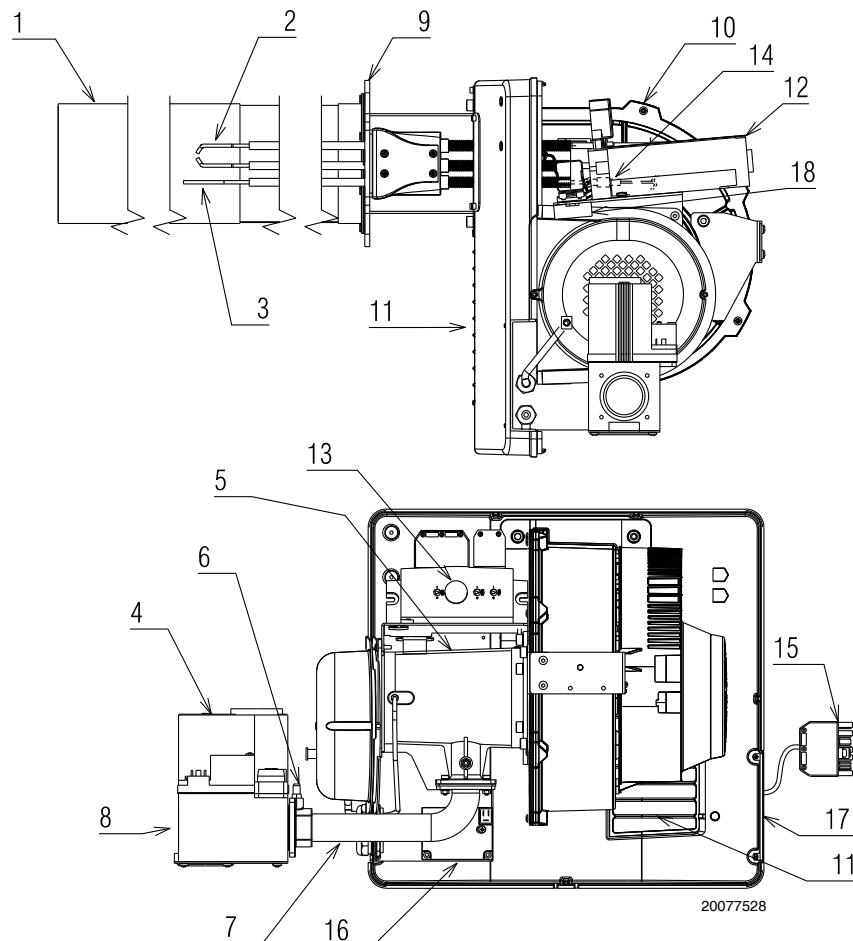

Fig. 2
(1) Reference conditions: Room temperature 20°C - Gas temperature 15°C - Barometric pressure 1013 mbar - Altitude 0 m a.s.l.
(2) Input gas pressure 8)(Fig. 2) with zero pressure in combustion chamber and at maximum burner output.
(3) Noise emission tests carried out as specified in EN 15036-1 with measurement accuracy $\sigma = \pm 1.5$ dB, in the manufacturer's combustion chamber with burner operating on test boiler at maximum output.
► **Control box lockout:** if the control box (13)(Fig. 2) push-button lights up, it indicates that the burner is in lockout. Press the push button to reset.